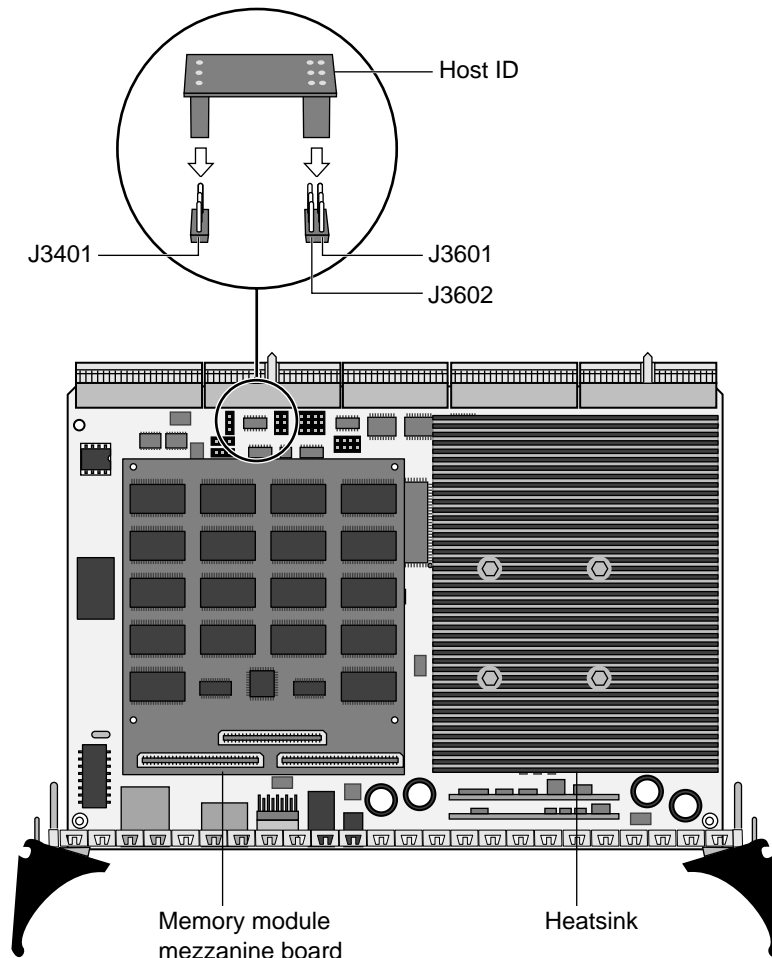

FIGURE 10-3 Removing the Host ID Board
- 8. If you want to preserve the host ID on your CPU card, remove the host ID board from the CPU card and store it in a safe location (FIGURE 10-3).**
4. **If you wanted to preserve the host ID on your CPU card, install the host ID board from the failed CPU card onto the replacement CPU card (FIGURE 10-3 on page 10-5).**
Note – The J3401 jumper shown in FIGURE 10-3 is only a mechanical stabilizer for the host ID board. It does not contain any signals.